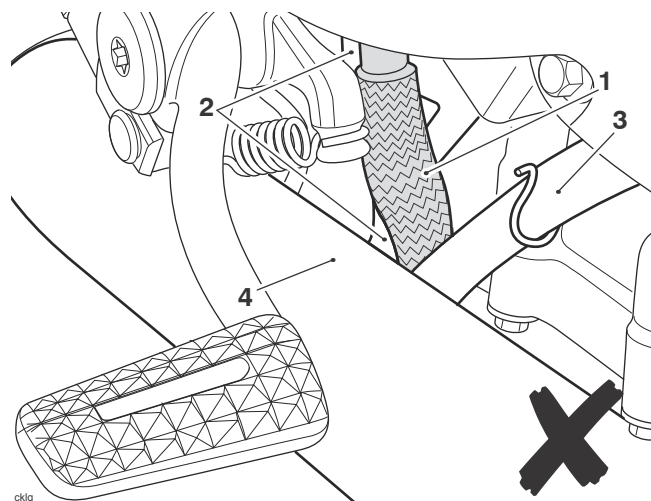

Figure 2: Coolant Hose Incorrectly Routed
- **Figures 2 and 3 below show incorrectly routed coolant expansion hoses. The hose is either routed in front of the brake line (when viewed from the right hand side of the motorcycle) or is routed between the brake line and the right hand exhaust header pipe. Contact with the right hand exhaust header is possible.**
- If the coolant hose is not in contact with the header pipe but is routed incorrectly in front of the brake line, as shown in **Figure 2 or 3 below**, go to **Coolant Expansion Hose Reposition**. No tools or parts are required. Submit a warranty claim for **Coolant Expansion Hose Reposition** using repair code 995631.
- If the coolant expansion hose is routed incorrectly in front of the brake line, as shown in **Figure 2 or 3 below**, and there are signs of damage to the braided sheath or the hose itself go to **Coolant Expansion Hose Replace**. Submit a warranty claim for **Coolant Expansion Hose Replace** using repair code 995632.